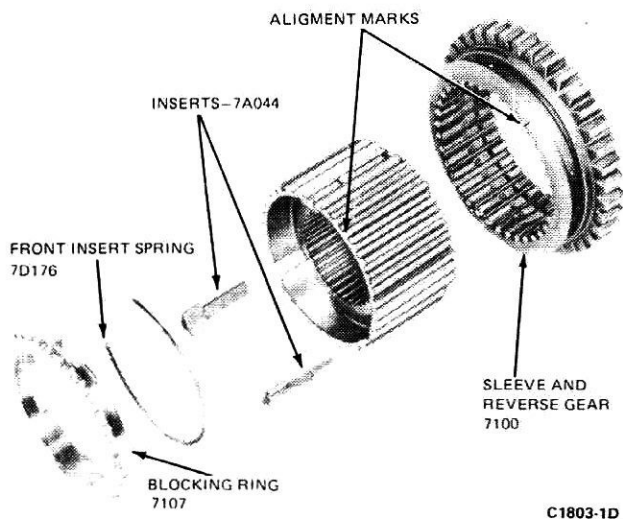

FIG. 16 First and Reverse Synchronizer Disassembled
2. Separate the inserts and insert springs from the hubs. Do not mix the parts from the second- and third-speed synchronizer with the first and reverse synchronizer (Figs. 16 and 17).